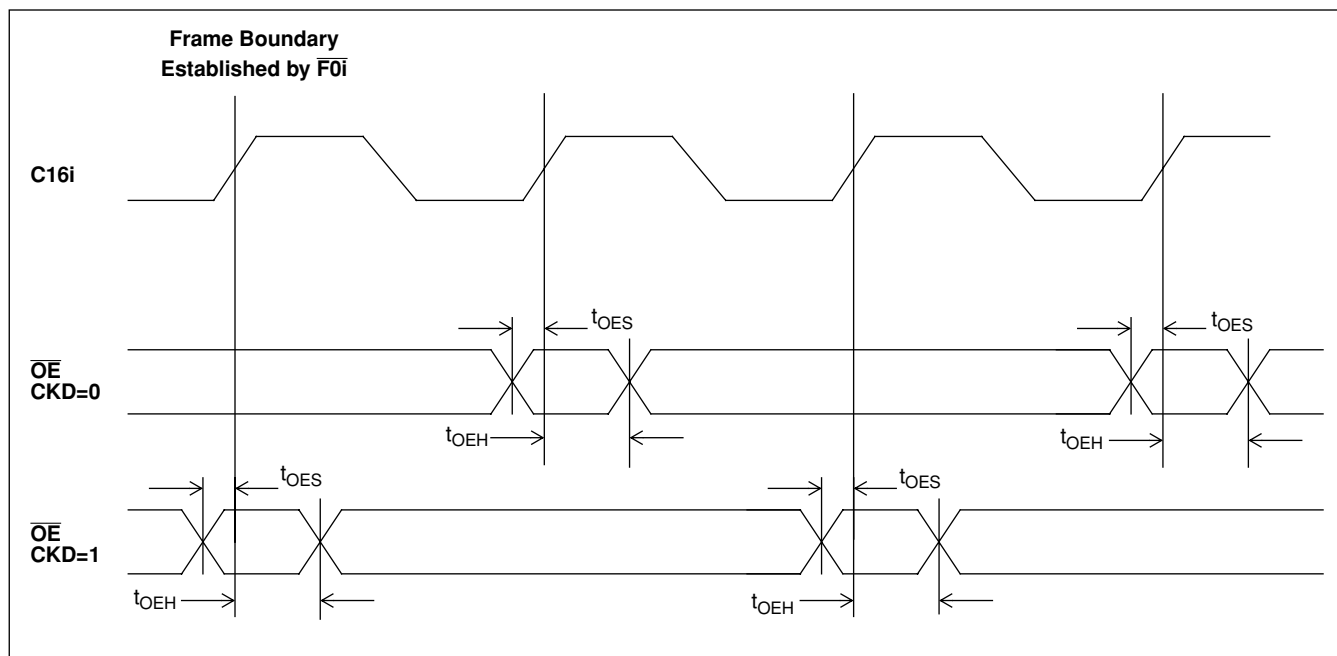

Figure 21 -  $\overline{OE}$  Timing in Parallel to Serial Mode
**AC Electrical Characteristics† - Output Enable ( $\overline{OE}$ ) Timing, in Parallel to Serial Mode (See Figure 21)** - Voltages are with respect to Ground ( $V_{SS}$ ) unless otherwise stated.